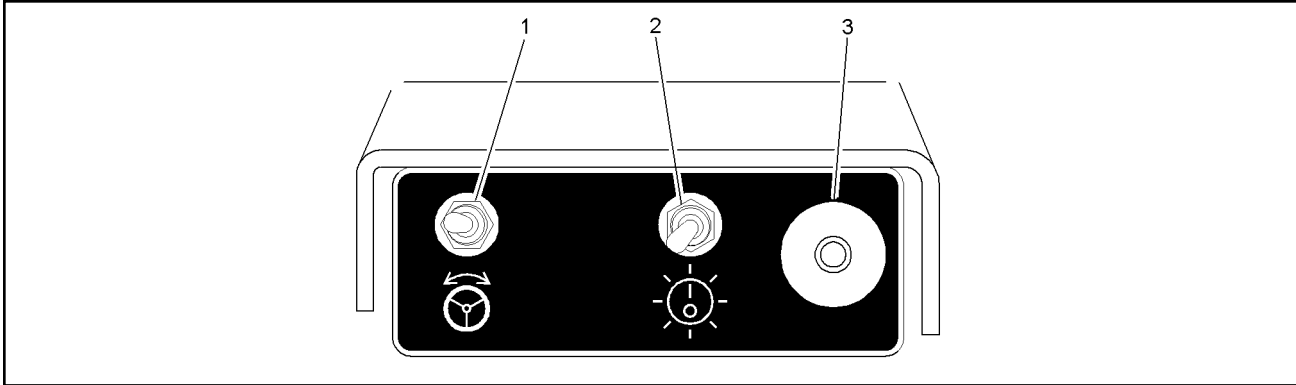

FIGURE 3-3. REMOTE CONTROLS
1. In an emergency, push the red EMERGENCY STOP button (Figure 3-1, item 13, or Figure 3-3, item 3).